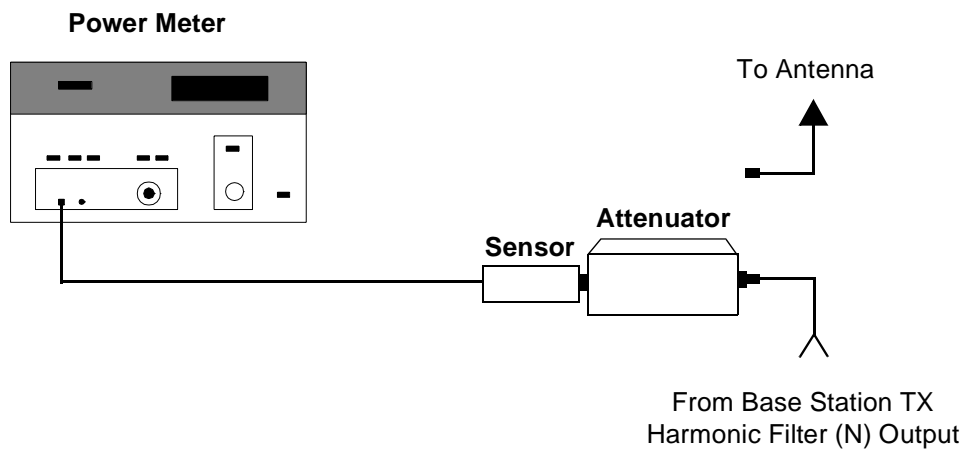

Figure 8
1. See *figure 8*. Zero the power meter and set the calibration factor if necessary. Place a high-power attenuator at the output of the TX harmonic filter. Connect a power meter sensor to the output of the attenuator. The attenuator might not be required if the power meter and sensor range is correct for the power being measured. Make certain that there are no extra cables in the setup. The attenuator should have a 50-ohm input and output impedance, with a VSWR less than 1.1:1. Record the value of the attenuation as ATTVALUE in dB.